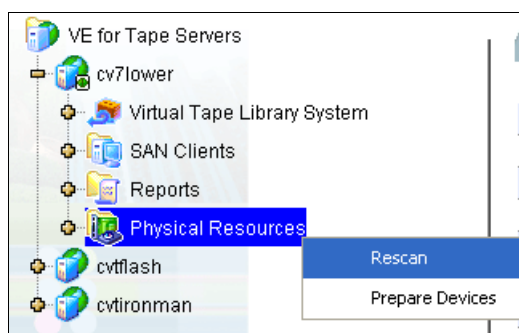

Figure 6-63 Discover new devices: Rescan
1. Right-click **Physical Resources**, and select **Rescan**, as shown in Figure 6-63.